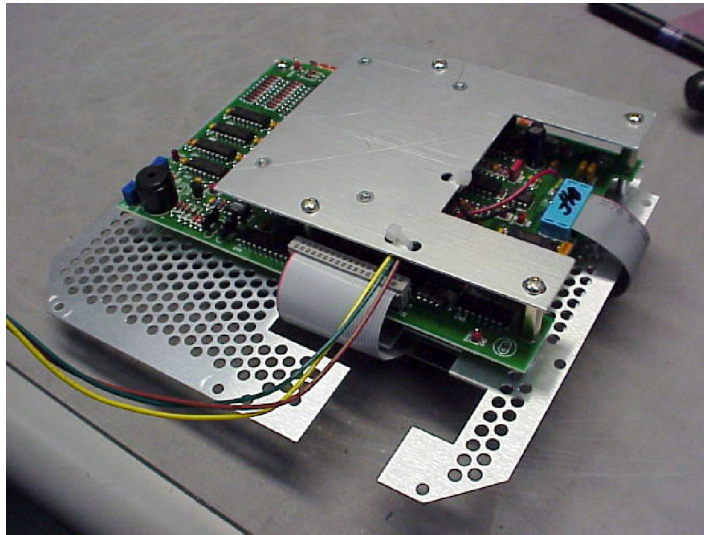

Figure 12: Attaching the Touch Panel Controller assembly to the Keypad board
- e. Position the Touch Panel Controller board and bracket assembly on the spacer posts on the Keypad board. See Figure 12.